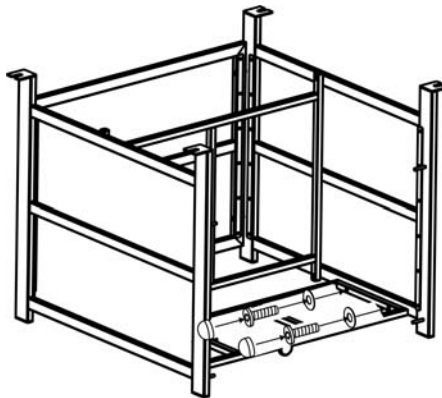

Figure 4
3. Attach the lp support frame to the side panels by using four 1/4"x30 mm bolts and Ø6.5x1.0 mm washers as shown in Figure 4. Guide the bolts through the holes in the lp support frame, into the pre-drilled holes in the side panels. **Hand tighten only.**